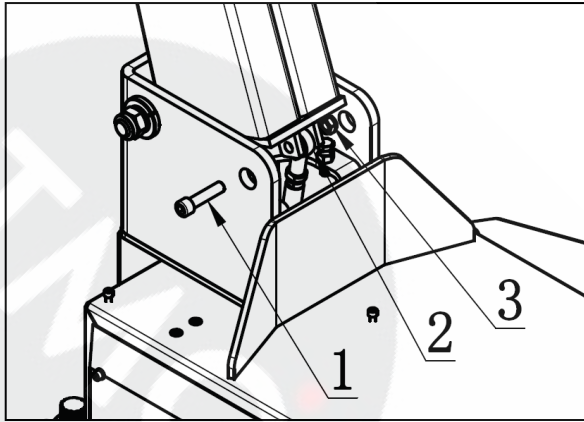
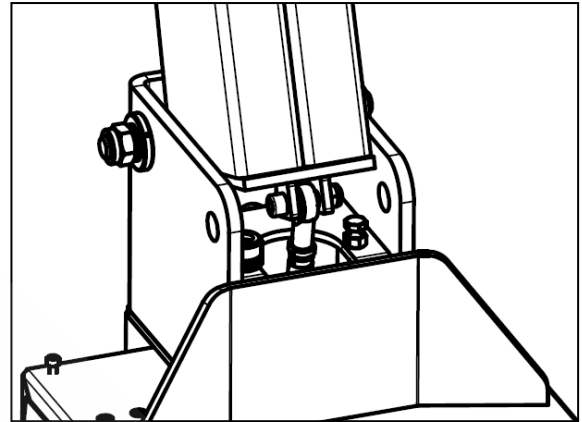

FIG11
FIG12
- Connect of column with the tilt back cylinder: Align the hole (FIG11-2) at the end of the cylinder rod and the installation hole at the bottom of the column. Use the 10# Allen key to insert the bolt M12X50 (FIG11-1) to the body upper base like FIG11. Connect the column and the tilt cylinder then fix them using nuts (FIG11-3). The condition after installation is like FIG12.